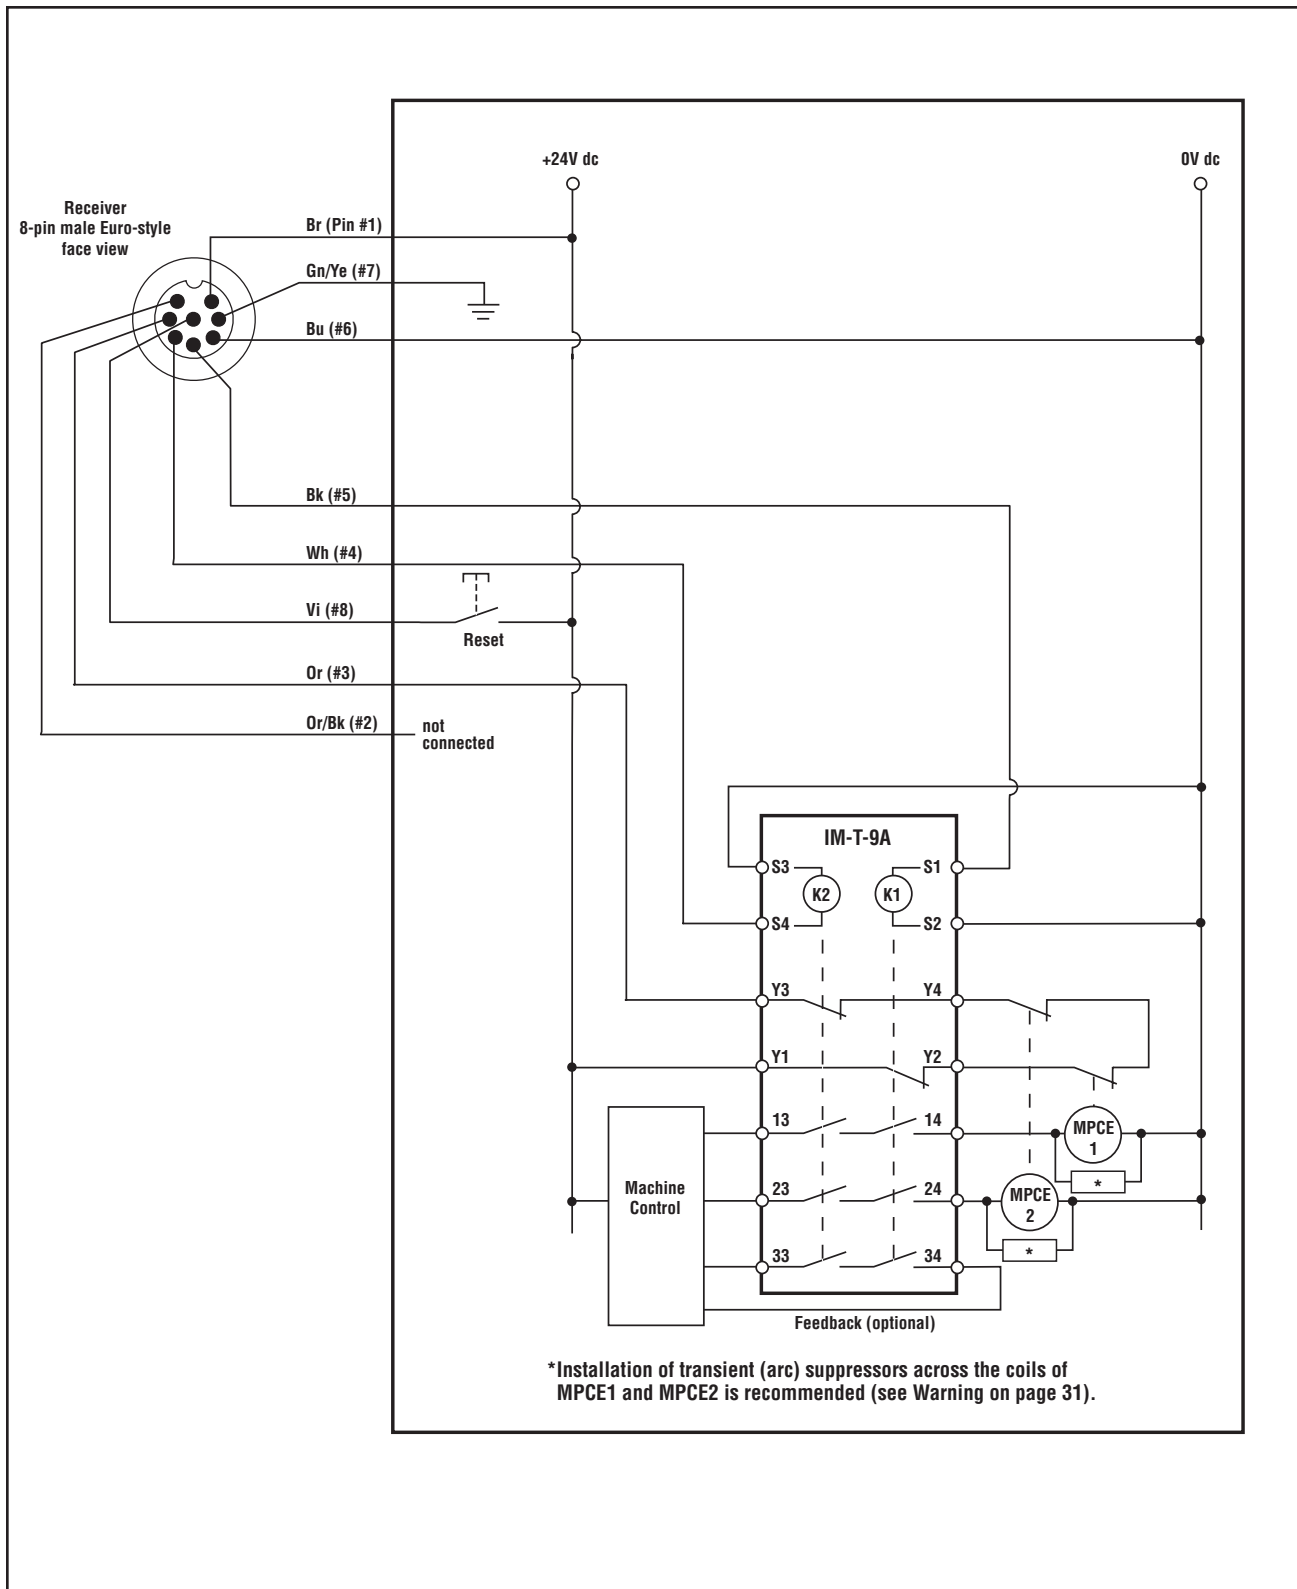

Figure 3-19. Generic hookup – interface module (1-Channel EDM, manual reset)
- **One-Channel Monitoring** is a series connection of closed monitor contacts that are forced-guided (mechanically linked) from each device controlled by the EZ-SCREEN. The monitoring contacts should open within 200 milliseconds of the OSSD outputs turning ON (a Clear condition) and should close within 200 milliseconds of the OSSD outputs turning OFF (a Blocked condition) or a Lockout will occur (see Diagnostics, Section 5.1). Refer to Figure 3-19 for One-Channel EDM hookup. Connect the monitor contacts between +24V dc and EDM1 (pin 3). Leave EDM2 (pin 2) open (no connection). Set the configuration DIP switch to E1, per Section 4.2.